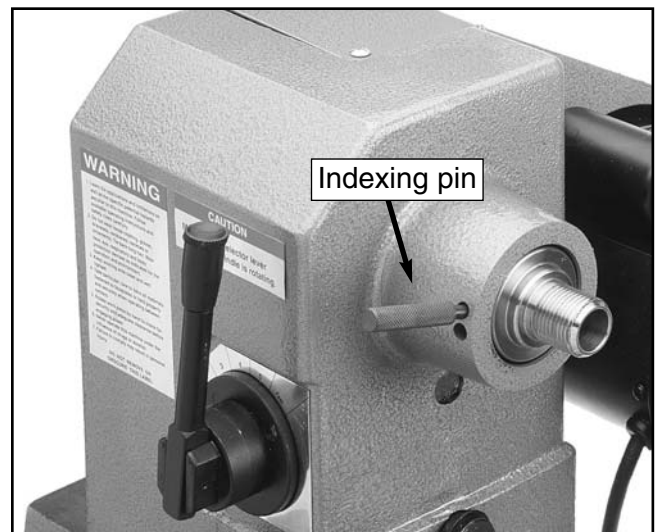

Figure 26. Spindle indexing.
2. Rotate the spindle by hand until the pin drops into a hole in the spindle (**Figure 26**).